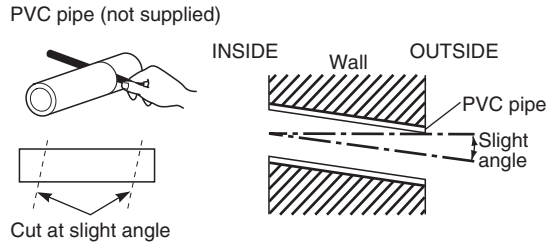

Fig. 1-201
- Measure the thickness of the wall from the inside to the outside and cut PVC pipe at a slight angle to fit. Insert the PVC pipe in the wall. (Fig. 1-201)